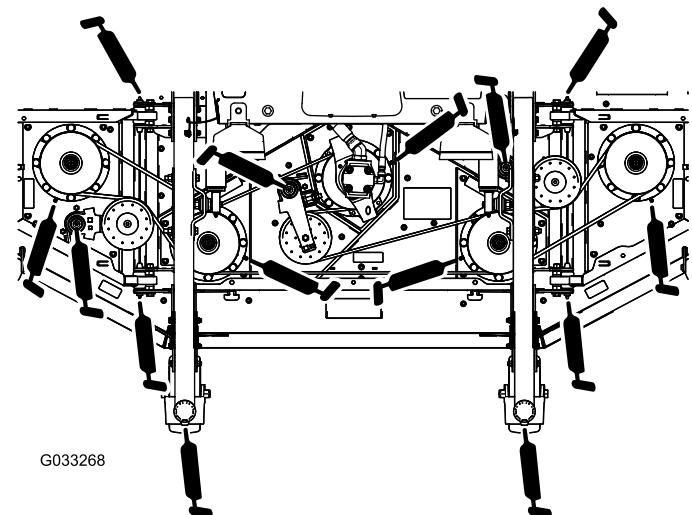

Figure 72
- 2 caster-fork-shaft bushings (Figure 72)
- 5 spindle-shaft bearings (located on the spindle housing) as shown in Figure 72
- 3 idler-arm-pivot bushings (located on the idler-pivot shaft) as shown in Figure 72
- 4 winglet-deck bushings (located on the winglet-pivot pins) as shown in Figure 72